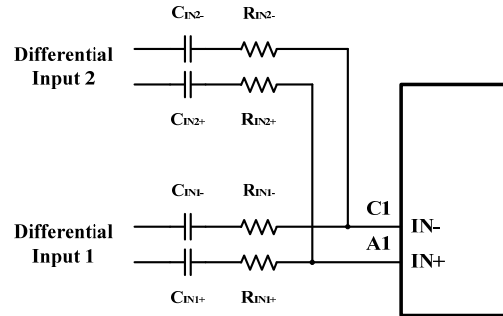

Figure 13 Summing Two Differential Inputs
Two extra resistors are needed for summing differential signals in Figure 13 (a total of 5 components). The gain for each input source can be set independently by Equations (4) and (5).